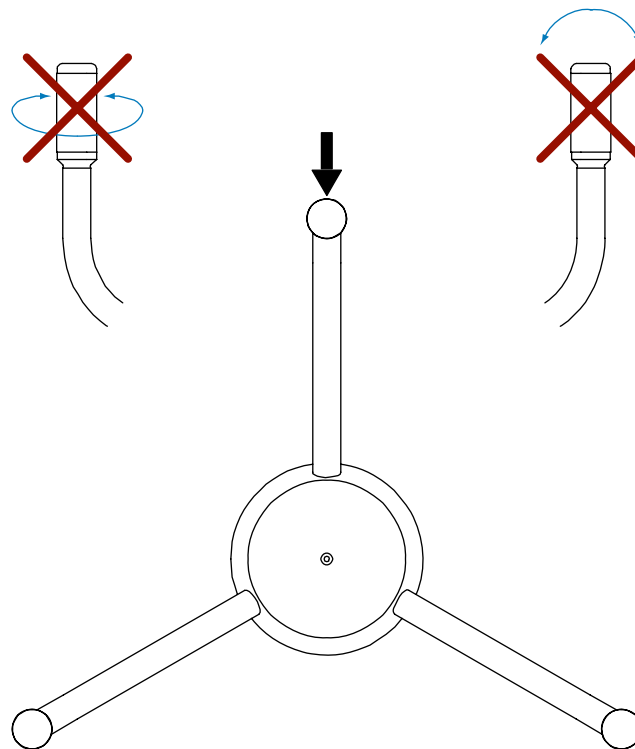

Figure 17 Solder Spot and Sensor Handling
seen on each ceramic transducer. The soldering spots on the ceramic transducer must be oriented outside the array. For the correct alignment, see Figure 17 on page 67. Do not rotate the transducer if the soldering spot is not in the correct location. Replace the anemometer.
3. Do not strike or bend the transducers. Striking or bending the transducers will destroy the array of the ultrasonic anemometer. All the transducers should be parallel to each other. For the correct alignment, see Figure 17 on page 67.
Orientation of the solder spot is indicated by the thick black arrow in Figure 17 on page 67. Do not rotate, pull, strike, bend, scrape, or touch the transducers with sharp objects.